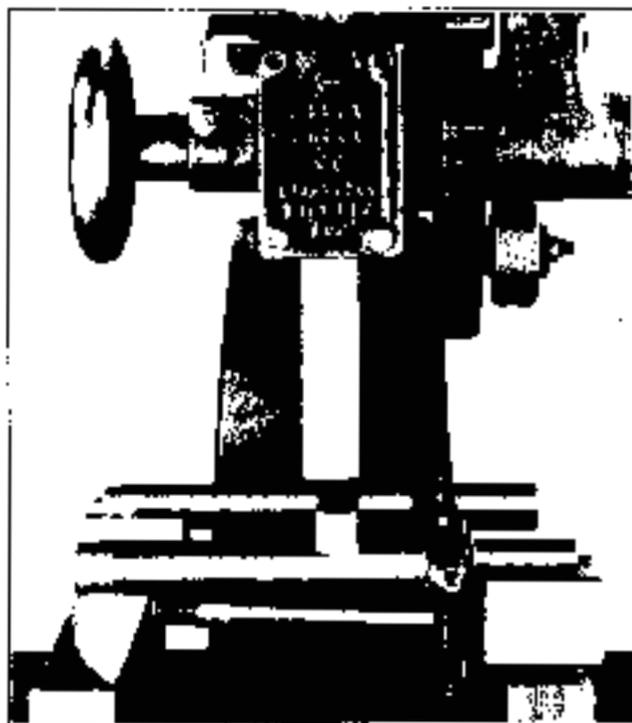

Figure 2-34H. Straightening Fork Stem and Bracket Assembly
STRAIGHTENING FORK STEM AND BRACKET ASSEMBLY (Figure 2-34H)
Insert two steel gauging bars in the fork bracket and secure in place with two bracket pinch bolts as shown in Figure 2-34H.
If both legs are twisted, place bracket assembly in position on arbor press as shown in Figure 2-34H. Place two straightening blocks under low legs (A and B). With press block (Z) placed straight across bracket assembly, press until legs (C and D) are forced down and into alignment with legs (A and B).